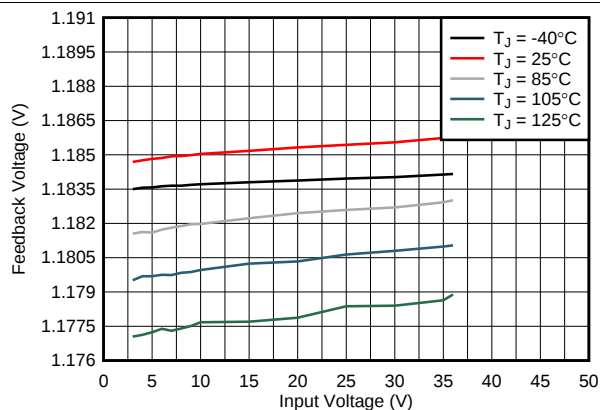

Figure 1. Feedback Voltage vs Input Voltage
- Updated Figure 1 to show correct device performance..... 7